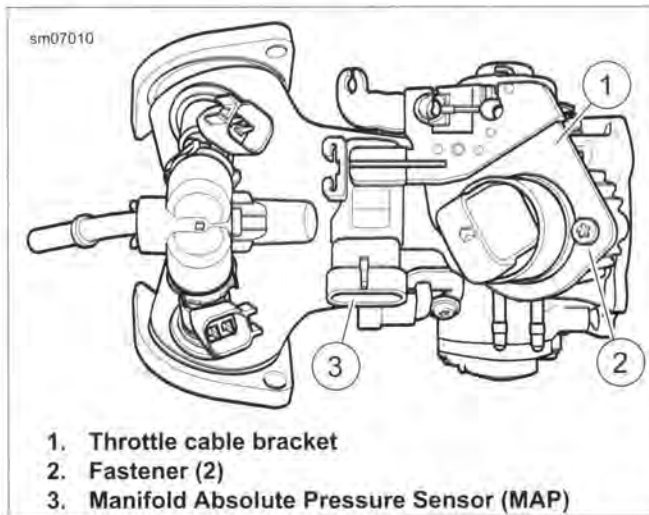

Figure 4-24. Throttle Cable Bracket Location
2. See Figure 4-24. Remove two fasteners (2) to release throttle cable bracket (1) from induction module. Discard fasteners.
4. See Figure 4-24. Install **new** throttle cable bracket fasteners (2). Tighten to 20-35 in-lbs (2.3-4.0 Nm).